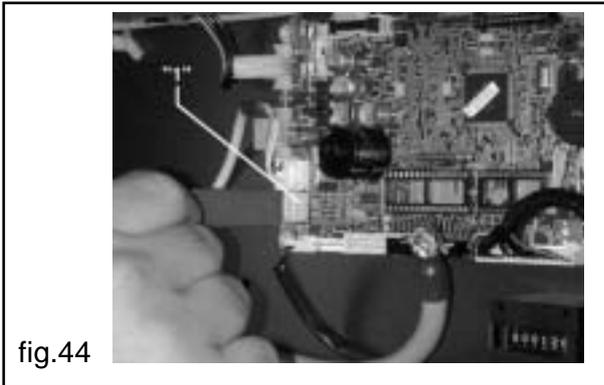

fig.44
The SAECO ELECTRONIC KEY is directly connected to the CPU through the CPU board. Check the connector position on the CPU board (ref.'1', fig.44). Data remain stored in the SAECO ELECTRONIC KEY as long as new setting data are stored on the same key.
- Switch off the machine and insert the SAECO ELECTRONIC KEY into the special connector on the CPU board (ref.'1', fig.44). Then switch on the machine.